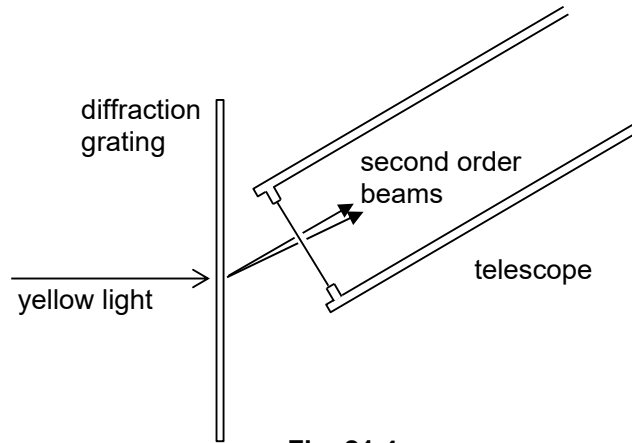

Fig. 21.4
- (ii) The maxima are viewed using a telescope with an objective lens of diameter D . The telescope is placed *very near* to the diffraction grating as shown in Fig. 21.4.